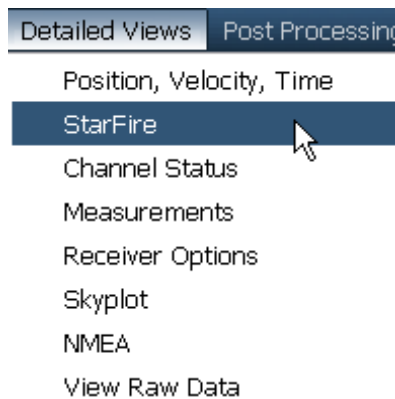

Figure 111: Detailed Views Menu – StarFire
1. Click *StarFire* on the *Detailed Views* menu to open the *StarFire* tab (see Figure 111).